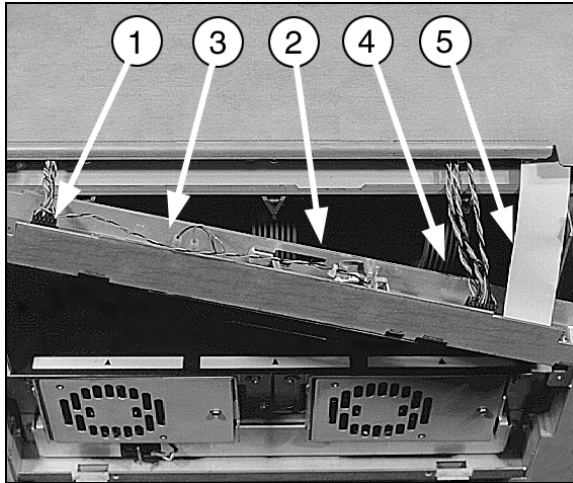

Figure 5-17. Removing Cables From the Rear of the Control Panel Assembly
- b. (See Figure 5-17). Remove the path-clear / home sensor cable connection (1), the connection to the front door interlock solenoid (2), the power connector (3), the connection to removable magazine / home sensors (4), and the front panel ribbon cable (5).
(See Figure 5-17) Pull the control panel up and out of its mounting channel a small amount and rotate it forward far enough to remove the path-clear / home sensor cable (1) and the connection to the door open solenoid (2) from the rear of the left side of the channel.